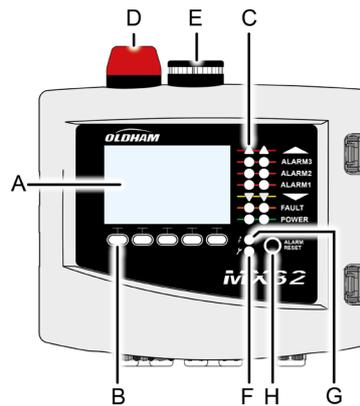

Figure 9: MX32v2's front plate
**Siren** (Figure 9: *MX32v2's* front plate E)
Figure 9: *MX32v2's* front plate Available as an option, adjustable from 85 to 100dB, it complements the internal buzzer and is configured via *COM 32* configuration software.
**Flash** (Figure 9: *MX32v2's* front plate D)
Alarm thresholds, relay programming, time delays setting, alarm acknowledgement modes or the management of the additional flash and sounder (Figure 9: *MX32v2's* front plate tags D and E) are configured through *COM 32* application.